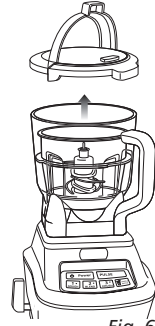

Fig. 6
- 10 To remove the lid, pull the lid handle up to a 90° angle and lift the lid off. (Fig. 6)